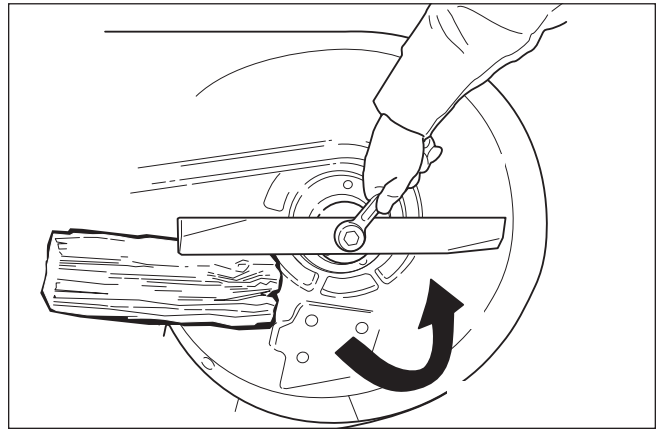

Figure 12. Loosening the Mower Blade for Removal
1. See Figure 12. To remove the mower blade, wedge a wooden block between the mower blade and the mower deck housing to keep the mower blade from turning, then remove the mower blade and the blade retaining hardware.